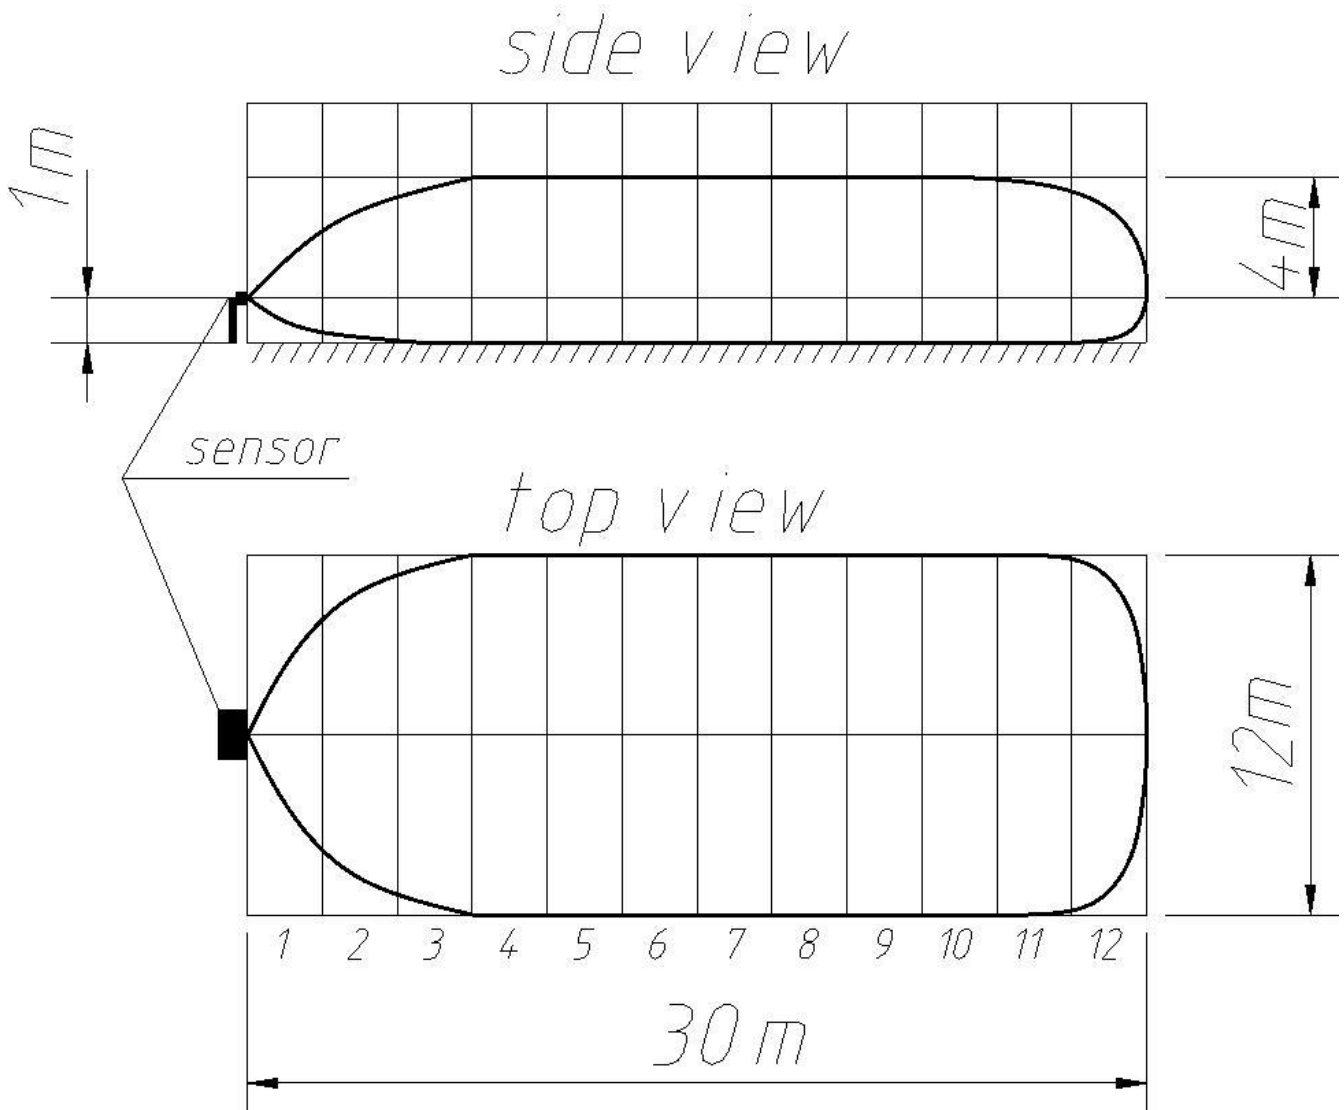

Fig. 8.1 Detection zone parameters of the sensor FM-30 (24)
8.3.5. Fix the sensor at a horizontal position (relative to the ground) with the bolt 9. The model of the detection zone form and its dimensions are shown in fig. 8.1.